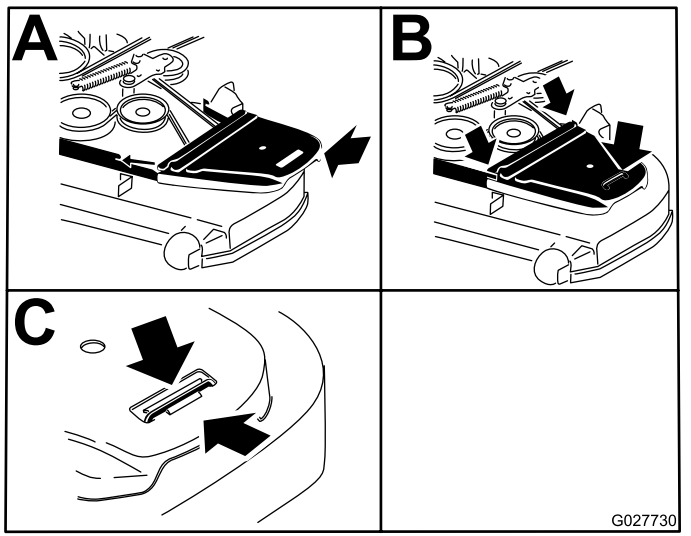

Figure 85
12. Install the belt covers (Figure 85).